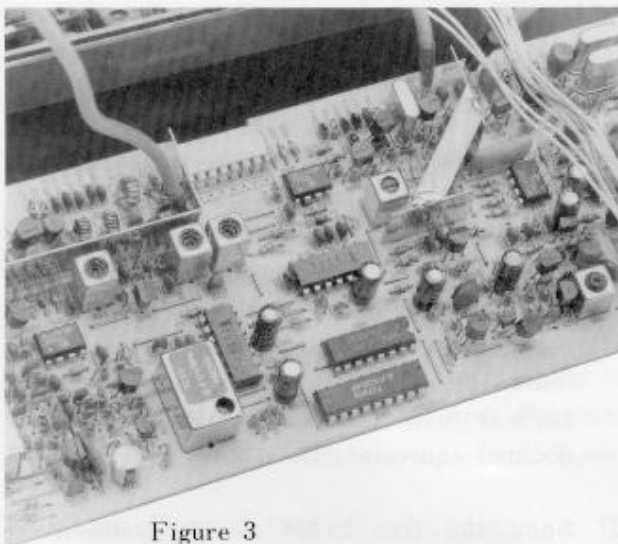

Figure 3
- (3) Install the TXCO Unit as shown in Figure 3, and solder the TCXO case at points A (2 places), and the TCXO leads at B (3 places). Then trim the leads, and reinstall the Local Unit.